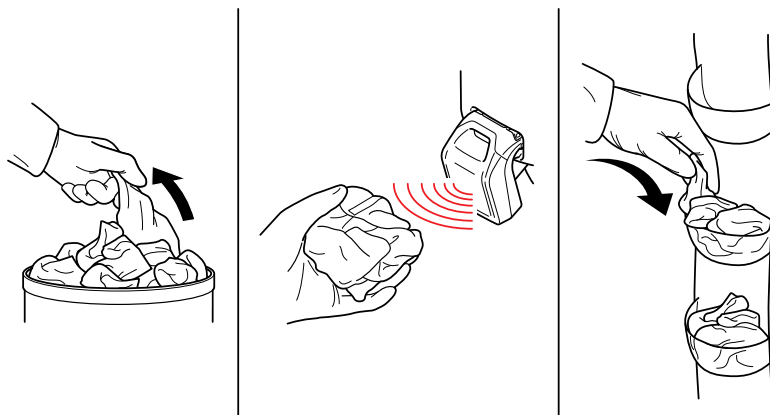

Figure 16 – Remove Sponge – Present Sponge – Bag Sponge
6. Bag the used sponge (Figure 16).